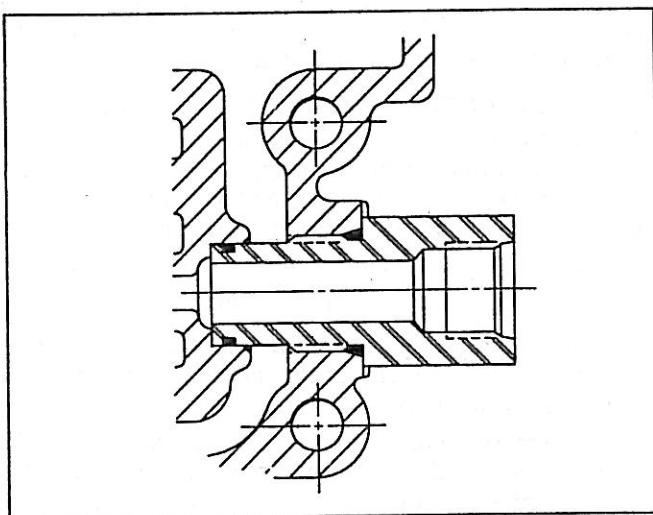

Figure 5. High-Pressure Carry-Over Ports
1. **EXTERNAL HIGH PRESSURE CARRY-OVER.** (See Figure 5) This valve is available with a special high-pressure carry-over port which provides an outlet for full flow pressure to an additional valve connected in series.
2. **CLOSED CENTER.** (See Figure 5) This control valve is available with closed center circuit which eliminates the bypass side of the circuit. The construction is similar to the High Pressure carry-over. On this model a solid adapter plug is used in place of the high-pressure side carry-over.